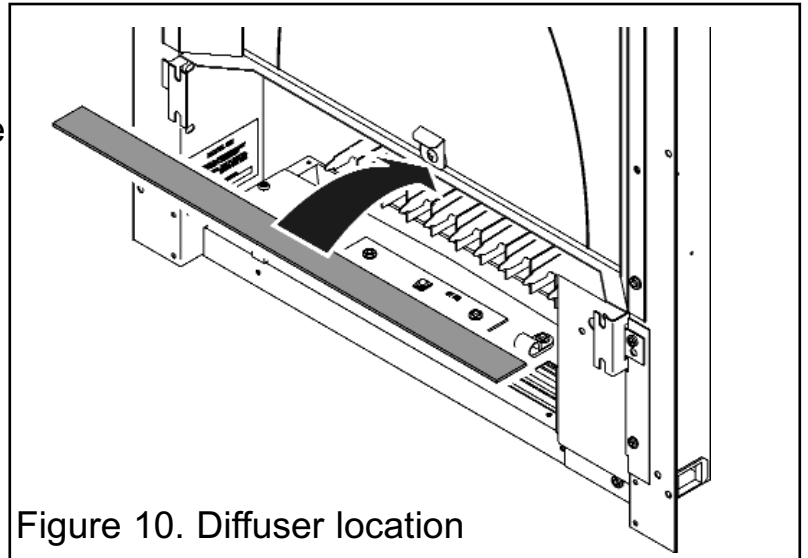

Figure 10. Diffuser location
1. There is a light diffuser supplied with the heater (See figure 3). Place this on to the metal flange below the plastic screen (See figure 10).